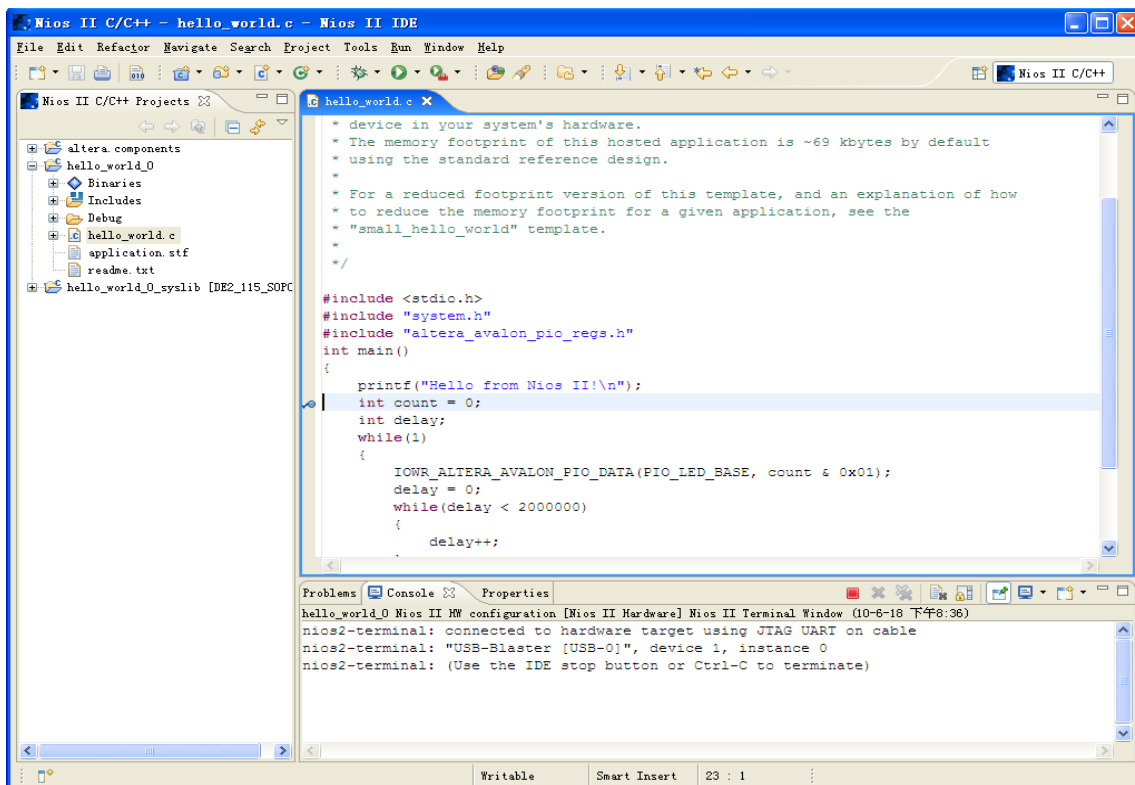

Figure 7-62 Set Breakpoint
1. In the **hello_world.c** , double-click the front of the line which is needed to set breakpoint. See **Figure 7-62**.